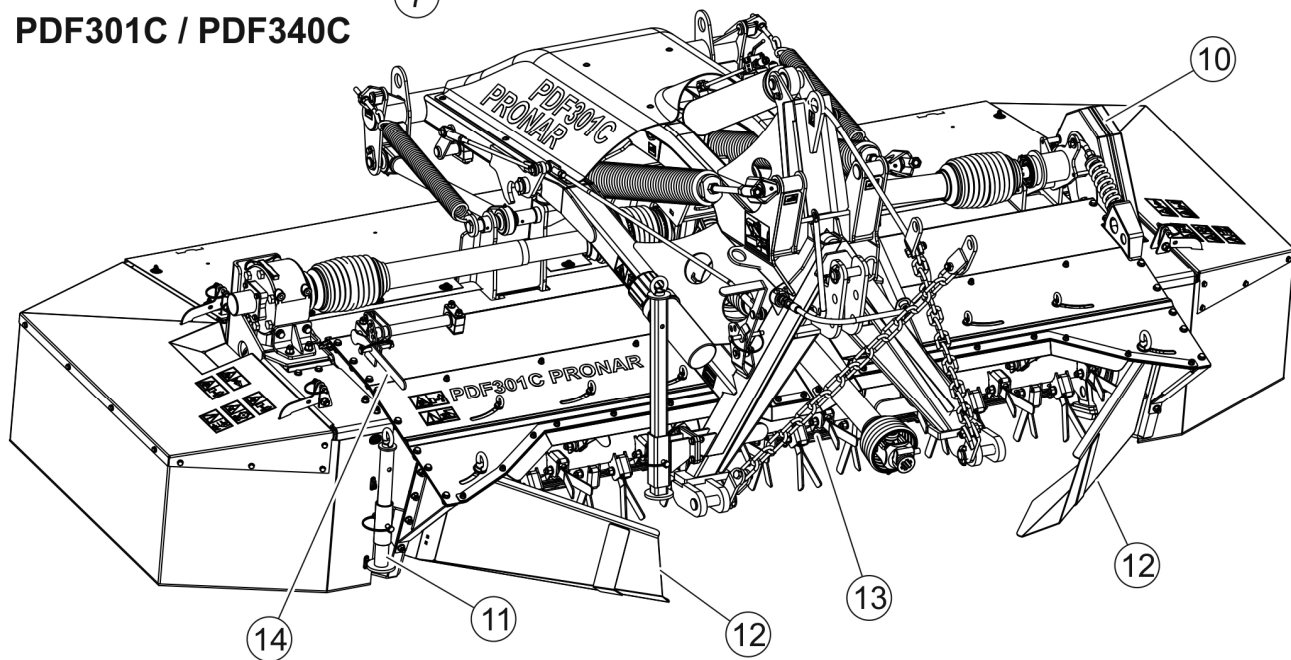

FIGURE 3.1 General design
(1) linkage frame, (2) cutter bar transmission, (3) stay springs, (4) main frame with guards, (5) cutter bar, (6) triangular hitching system, (7) swath guide, (8) support leg, (9) mower central transmission, (10)- swath conditioner belt drive (PDF301C / PDF340C), (11)- conditioning assembly supports (PDF301C / PDF340C), (12)- swath guides (PDF301C / PDF340C); (13)- conditioner shaft (PDF301C / PDF340C); (14)- damping fingers adjustment lever (PDF301C / PDF340C); (15)- relief chains.
The PDF301 / PDF301C / PDF340 / PDF340C front disc mower (FIGURE 3.1) is designed to operate with a tractor equipped with a front three-point linkage and front power takeoff shaft (PTO). It consists of linkage frame (1), attached to the main frame (4) using tension rods and pins. The lifting side shields, front and rear shields are secured to the main frame. Power is transmitted from the tractor to the cutting bar (5) by means of transmissions (2) and (9) and PTO shafts (SECTION 3.4 *"DRIVE ASSEMBLY AND CUTTING UNIT"*). Stay springs (3) ensure the cutter bar exerts uniform pressure on the ground – see (SECTION 4.5 *"SETTING AND MOWING"*). Adjustable swath guides (7) secured to main frame (PDF301 / PDF340) enable swath width to be set at widths from 1.4 to 1.8 m.